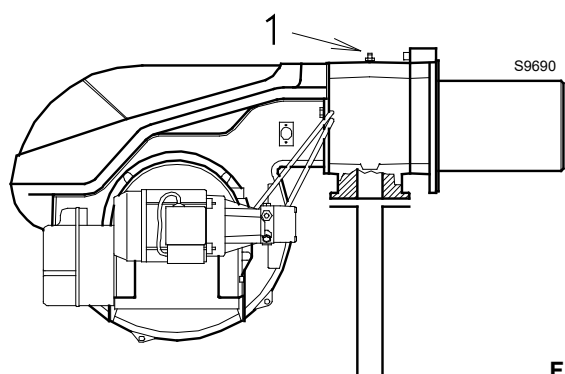

Fig. 29
Gas pressure measured at test point 1)(Fig. 29), with:
- subtract the combustion chamber pressure from the gas pressure measured at test point 1)(Fig. 29).
To calculate the required gas pressure at test point 1)(Fig. 29), with the output fixed at that required for the burner in the 2nd stage:
- Read, on the right (column 1), the pressure at the test point 1)(Fig. 29).
pressure required at test point 1)(Fig. 29).